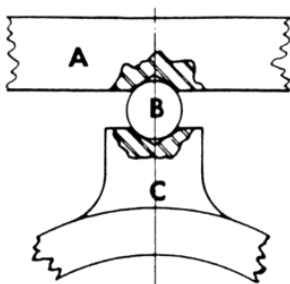

Figure 14:
Next, as shown in Figure 14, place a hardened alloy steel loading ball (B) of the proper size and load rating in the ball seat of the reference standard (C) and lower the upper yoke platen (A) until the ball seat of the platen rests on the ball.